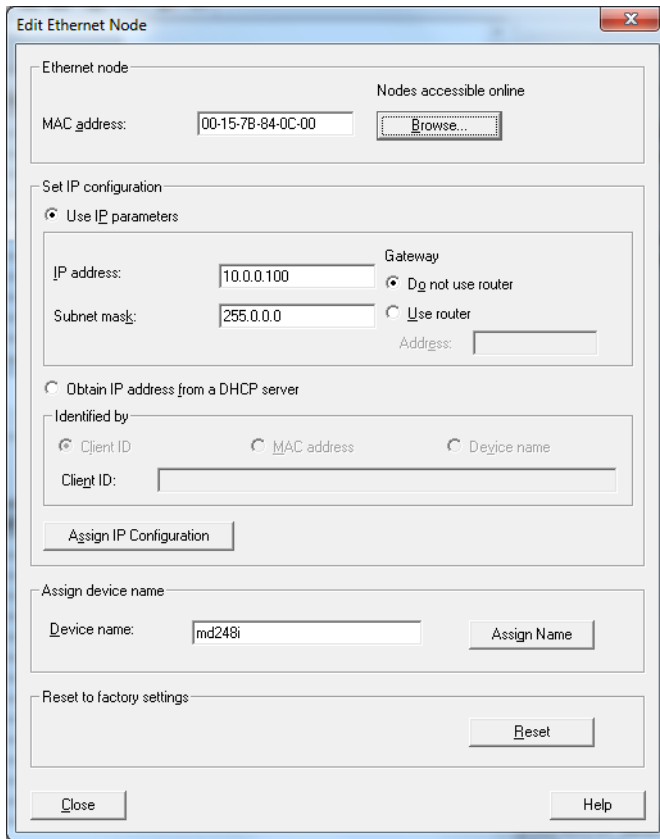

Figure 7: Configure IP Address and Device Name
The **Obtain IP address from a DHCP server** option in the *Edit Ethernet Node* window in STEP 7 (Figure 7: Configure IP Address and Device Name) is not supported. DHCP can only be enabled or disabled via the web interface.
3. Select the IO-Link Master in **HW Config**, open the Edit Ethernet Node window (Figure 7: Configure IP Address and Device Name) by using menu **PLC | Ethernet | Edit Ethernet Node** option.
In Figure 7: Configure IP Address and Device Name the IO-Link Master was configured to use a static IP address 10.0.0.100, subnet mask 255.0.0.0 and no router.